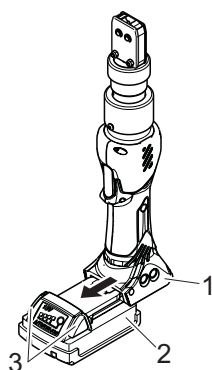

Fig. 18: Removing the battery
- ▶ Press buttons (Fig. 18/3) and pull battery (Fig. 18/2) out of clamp pincer CP 10 / CP 20 / CC 20 (Fig. 18/1).